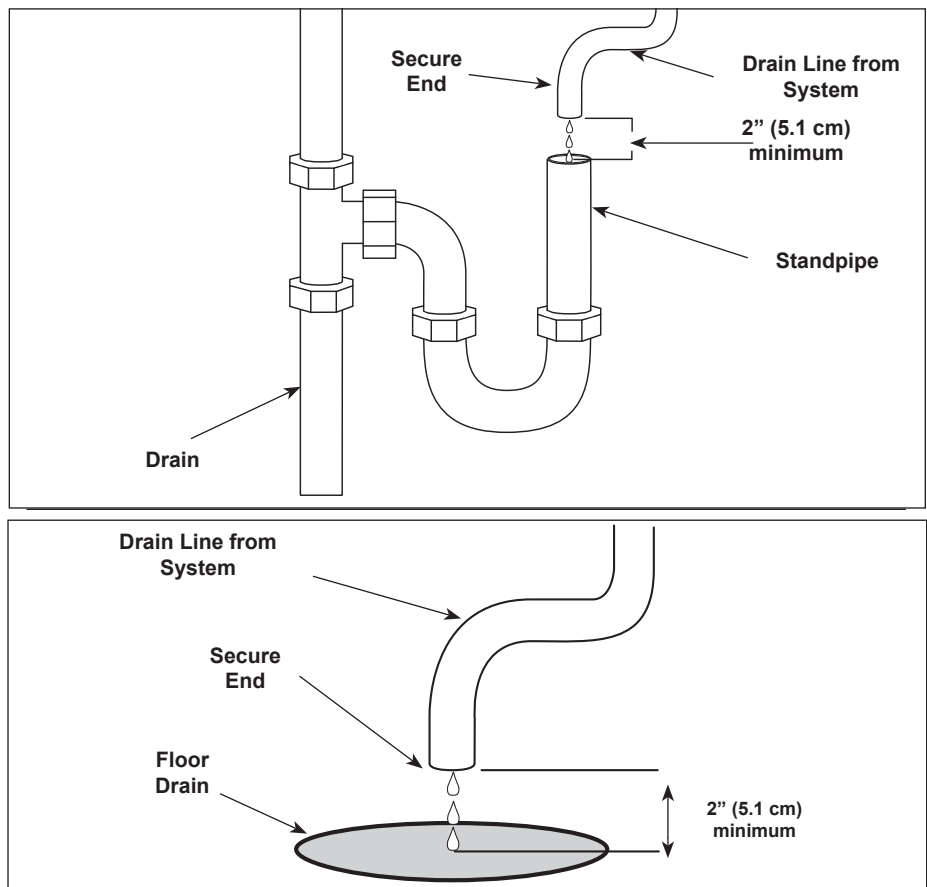

Figure 5. Drain Line Plumbing
3. Direct the other end of the hose to the drain (Figure 5). For hard plumbed drain lines the use of an O-Ring sealed union is recommended (not supplied).
- The drain line plumbing must be positioned and secured at least 2 inches above the drain (Figure 5). This air gap protects the system from contamination in the event of a backed-up drain.